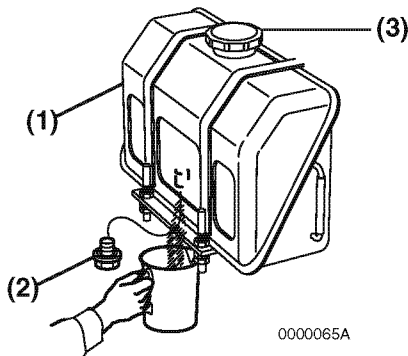

Figure 10
1. Position an approved container under the diesel fuel tank (**Figure 10, (1)**) to collect the contaminants.
2. Remove the fuel cap (**Figure 10, (3)**).
3. Remove the drain plug (**Figure 10, (2)**) to drain the contaminants (water, dirt, etc.) from the bottom of the tank.